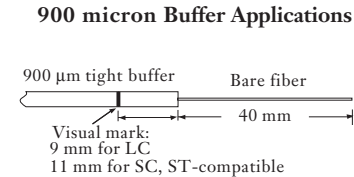

Figure 66 — Mark from Edge of Coated Fiber
- Make a visual mark from edge of coated fiber (Figure 66):